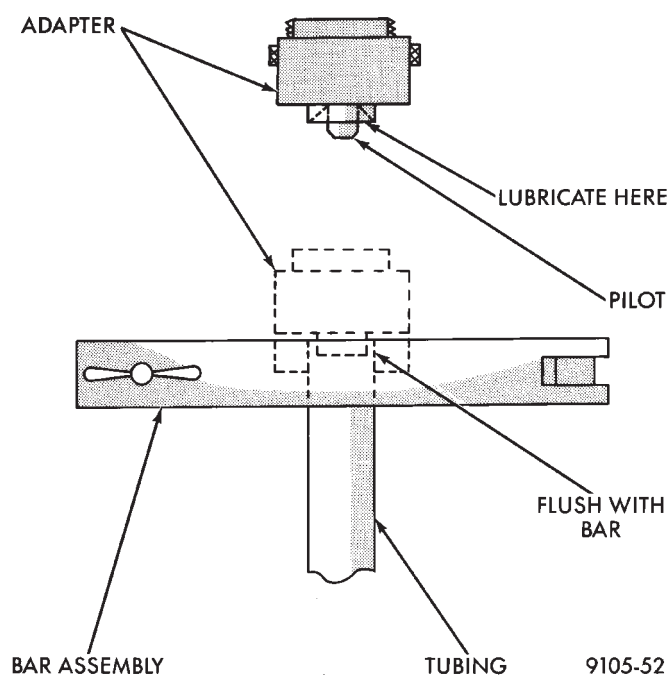

Fig. 17 ISO Tubing Flare Process
To create a (metric) ISO style tubing flare, Use Snap-On Flaring Tool TFM-428, or equivalent. See (Fig. 17) and proceed with the steps listed below. **Be**
(2) Open the jaws of the Flaring Tool. Align the mating size jaws of the flaring tool around the size of the tubing to be flared. Close the jaws of the Flaring Tool around the tubing to keep it from sliding out of the flaring tool, but do not lock the tubing in place. (See Fig. 17.)
(3) Position the tubing in the jaws of the Flaring Tool so that it is flush with the top surface of the flaring tool bar assembly. (See Fig. 17.)
(4) Install the correct size adaptor for the brake tubing being flared, on the feed screw of the yoke assembly. Center the yoke and adaptor over the end of the tubing. Apply lubricant to the adaptor area that contacts brake tubing. Making sure the adaptor pilot is fully inserted in the end of the brake tubing. Screw in the feed screw of the yoke assembly until the adaptor has seated squarely on the surface of the bar assembly (Fig. 17). This process has created the (metric) ISO tubing flare.